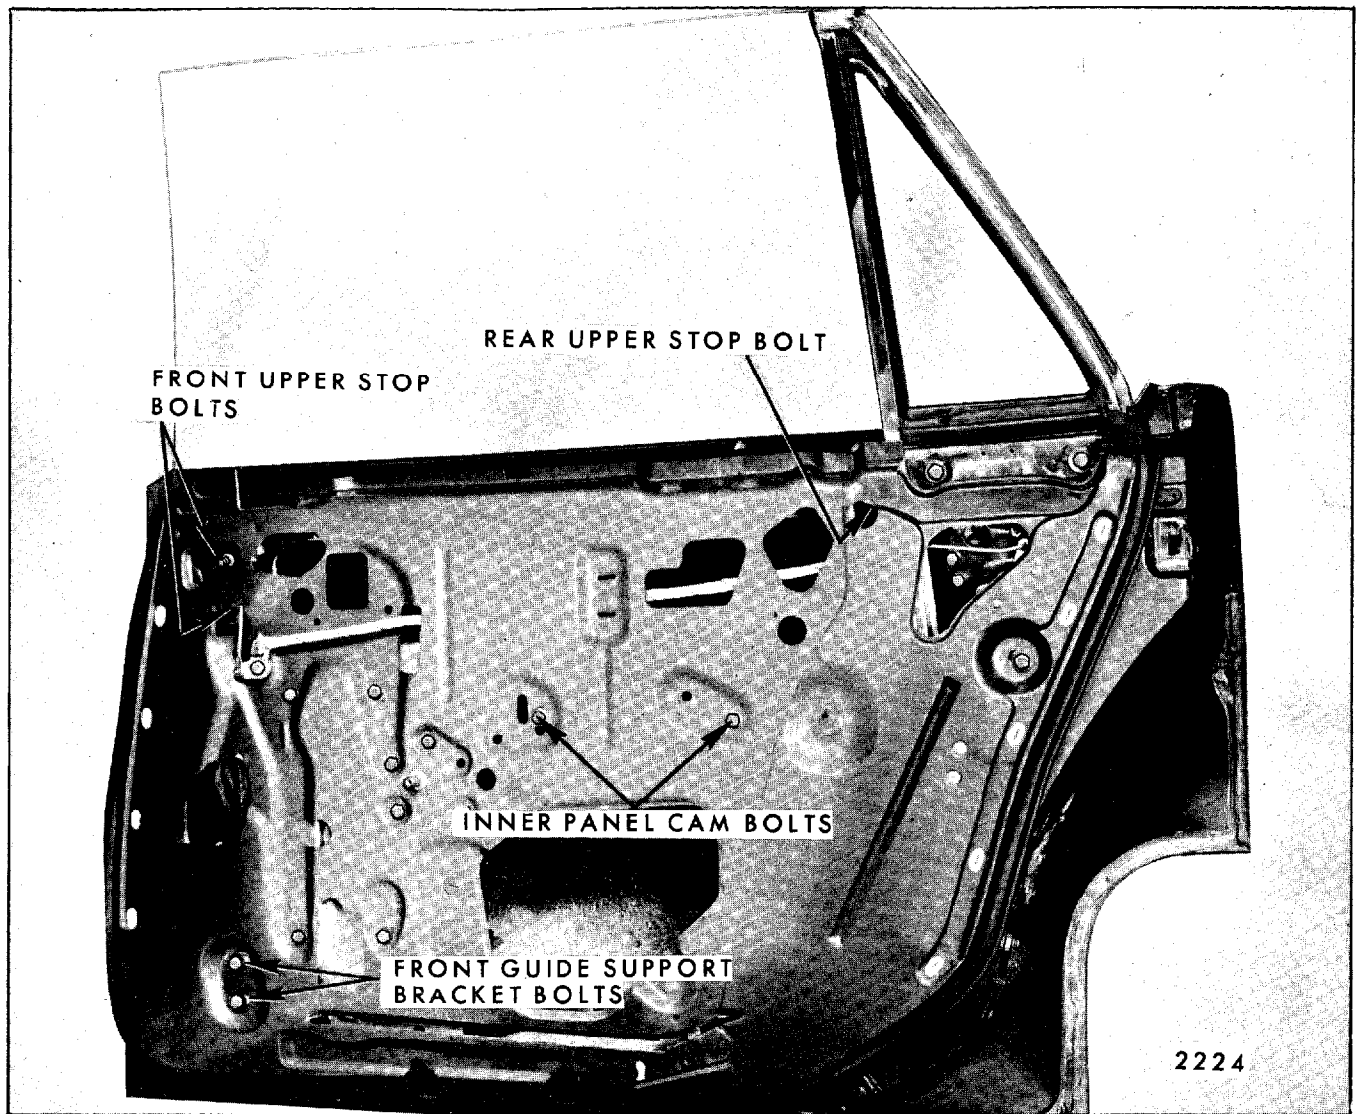

Fig. 7-155—Front Guide and Upper Stop Removal
3. Remove front upper stop attaching bolts and remove stop (Fig. 7-155).
4. Remove front guide support bracket attaching bolt (Fig. 7-155).